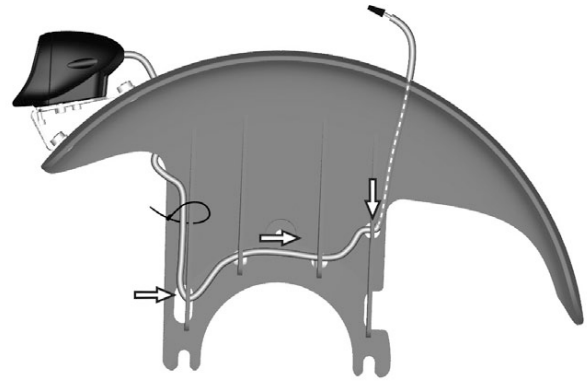

Figure 171. Assemble the cable on the inside of the front fender running it through the slots and using a cable tie.
2. Assemble the cable on the inside of the front fender running it through the slots and using a cable tie, then position the end of the lights cable up the hole through the fender. See fig.171